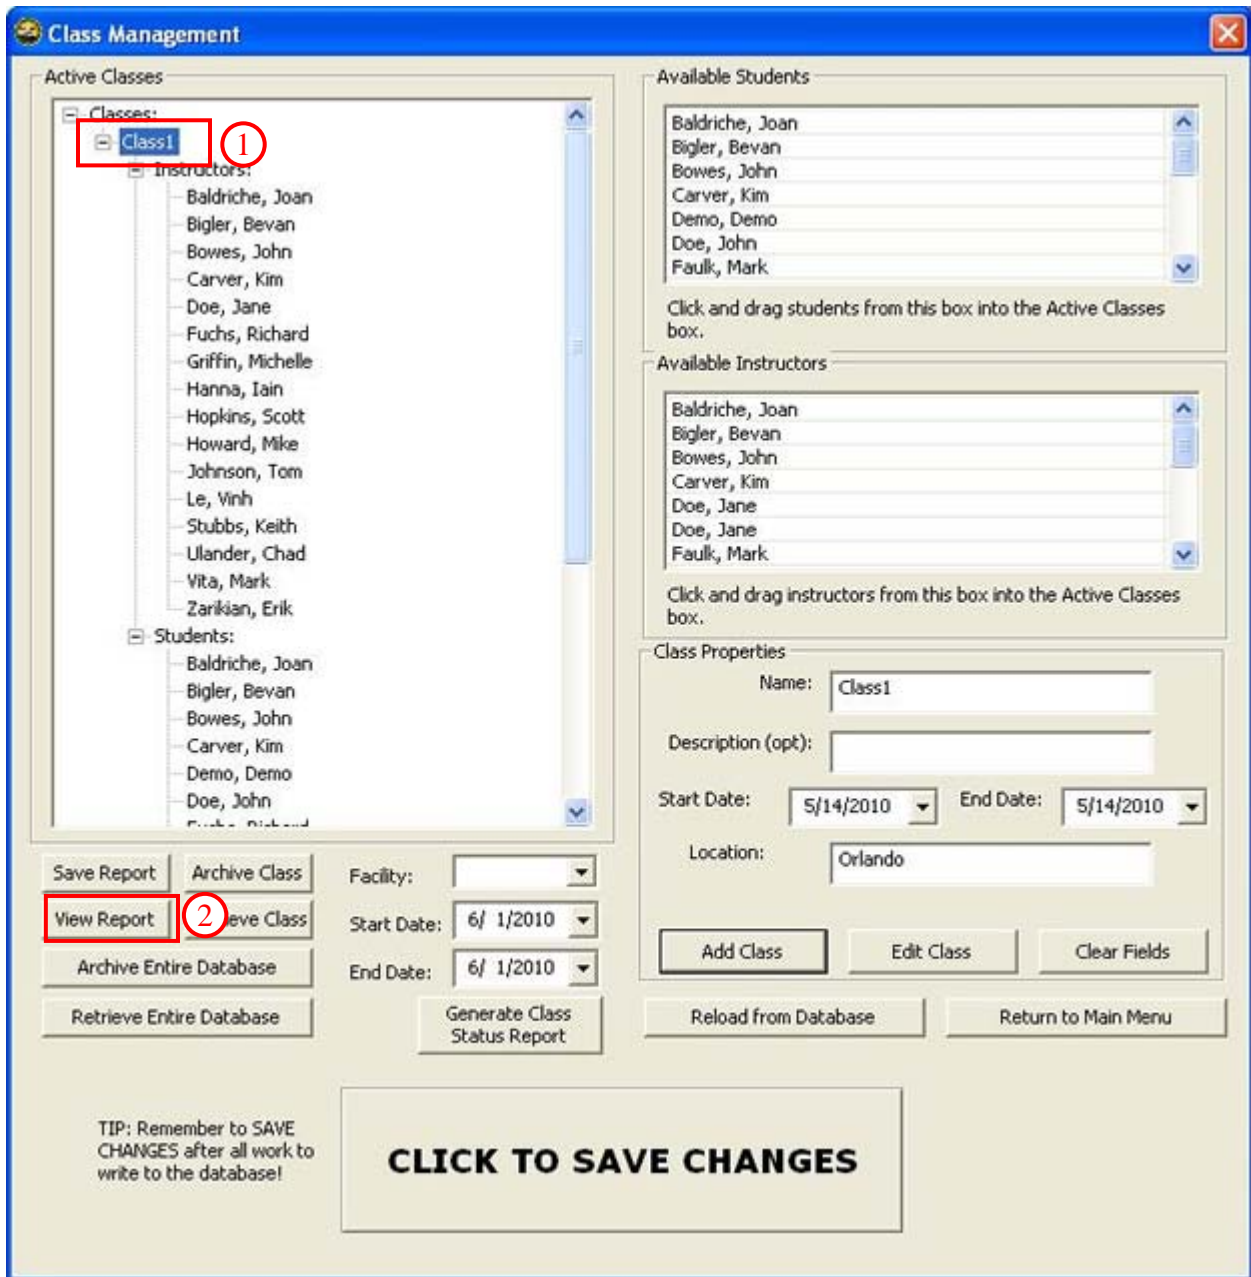

Figure 84. Class Management - View Report
1. Select a class from the *Active Classes* list (Figure 84).